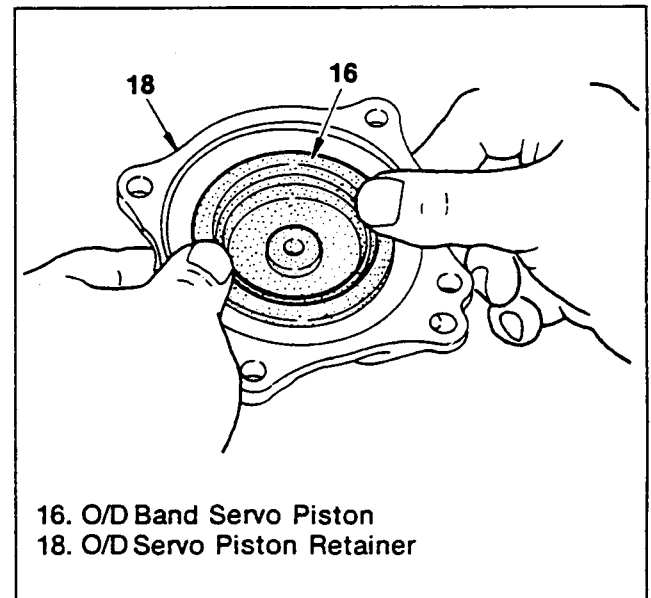

Figure 224. O/D Band Servo Piston Installation
2. Using both hands, push the O/D band servo piston forward and fit it to the O/D servo piston retainer (figure 224).